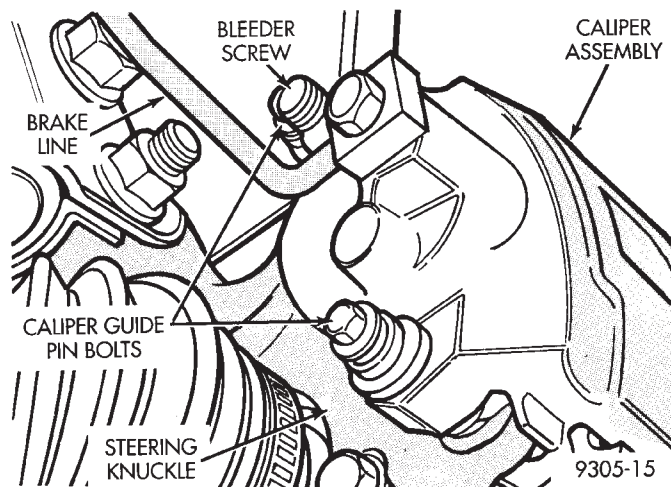

Fig. 1 Disc Brake Caliper Mounting
(1) Raise vehicle on jackstands or centered on a frame contact type hoist. See Hoisting in the Lubrication and Maintenance section of this manual, for the required lifting procedure to be used for this vehicle.
(2) Remove the front wheel and tire assembly from the vehicle.
(3) Remove the front caliper assembly from the front steering knuckle assembly (Fig. 1). Refer to